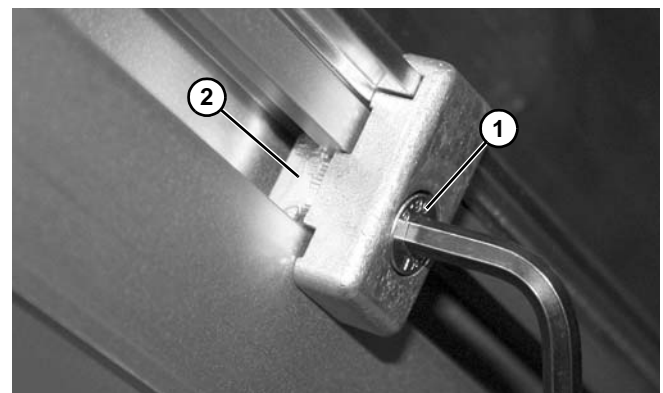

Figure 28
2. Tighten screw (Figure 28, item 1) making sure t-bar (Figure 28, item 2) rotates and engages inside of channel.